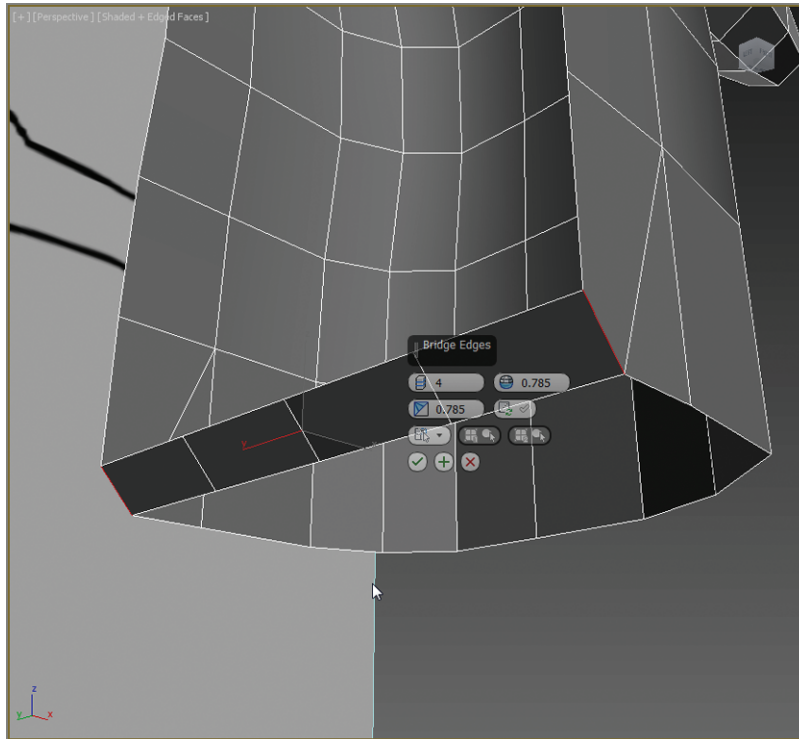

FIGURE 7.26 Bridge between two edges to create the groin area.
7. Use four segments to create a bridge, as shown in Figure 7.26. Doing so creates a bridge between the front and back.
With the bridge in place, the border edge on the bottom of the torso resembles a capital letter *D*, as shown in Figure 7.26. If you extrude the leg down from here, the inner thigh will be flat. For a better starting point to form the leg, you need to cap the hole as you did with the arm previously.